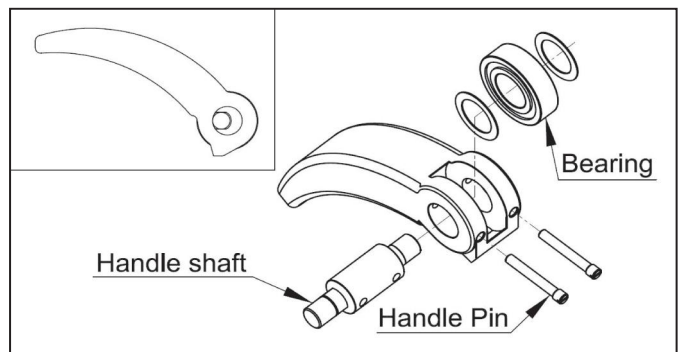

Fig. 9-9
(9) Remove the bearing by using a small flathead screwdriver to take out the two handle pins, slide out the handle shaft, as shown in Fig. 9-9.